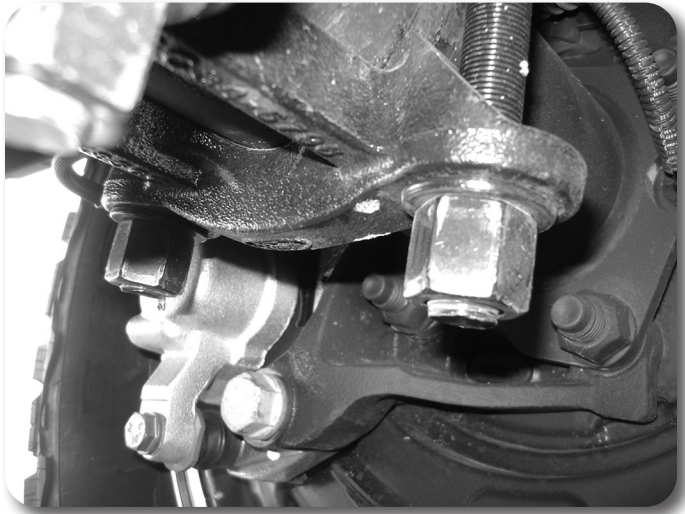

Figure 27
19. Raise the axle to engage the block spring alignment pins. Fasten the entire assembly with the provided u-bolts, washers, and nuts. Snug but do not torque the u-bolts at this time. Figure 27